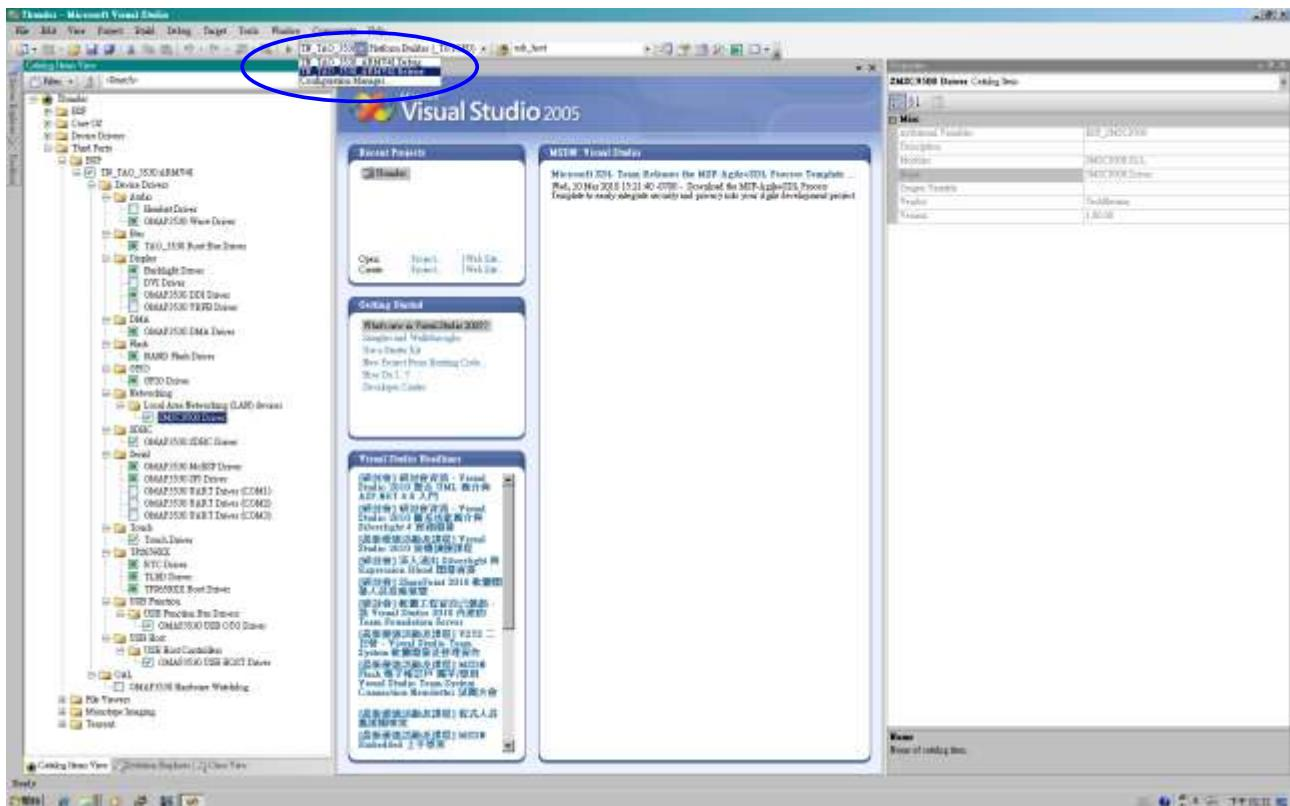

Figure 135
- Chose “TN\_TAO\_3530\_ARMV4I Release”. (See Figure 135)